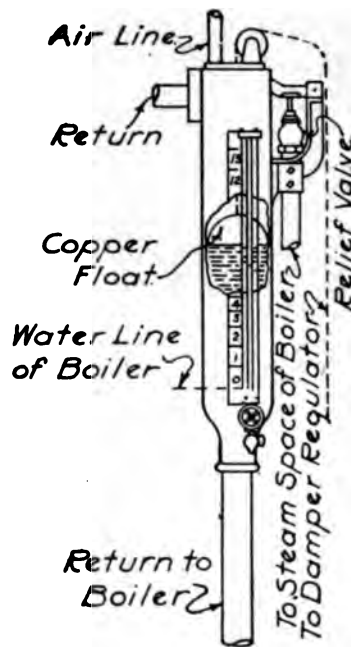

Fig. 114.—Receiver and Regulator—Broomell System.
A. It is connected to the boiler and piping system as shown by Fig. 114. From the top of the receiver the air line is connected to a condensing radiator usually composed of several sections of indirect radiation suspended below the ceiling of the basement.